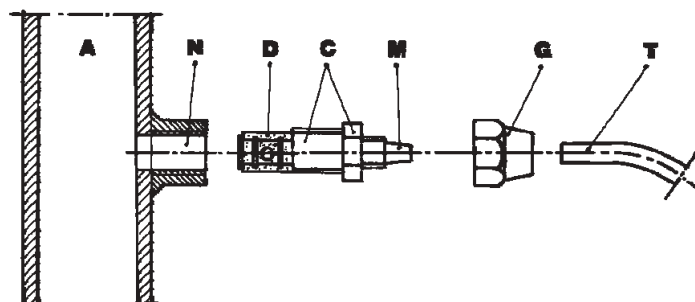

Fig. 9
- g. - Select the most appropriate injection point on a pipe of the plant to be treated and there fit a 3/8" female steel gas thread connector (similar to BSPm). This connector is not supplied with the pump. Screw the injection valve to the gas connector, inserting a gasket as shown in Fig. 9. Then connect the discharge hose to the conical connector on the injection valve and fix it with the supplied tube nut. The injection valve also acts as no return valve by means of a cylinder sleeve (elastomer, standard supplied in Viton®).
#### DIAGRAM Fig. 9